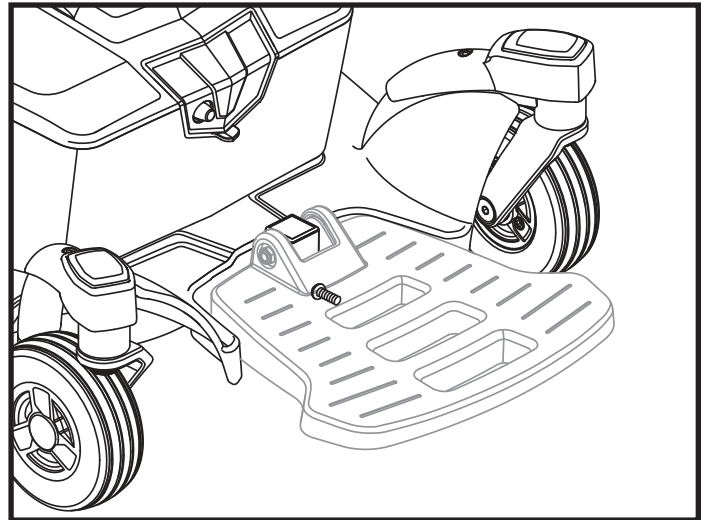

Figure 10. Foot Platform Angle Adjustment
You can adjust the angle of the foot platform. **See figure 10.**
2. Turn the adjustment screw to raise or lower the front of the foot platform. **See figure 10.**